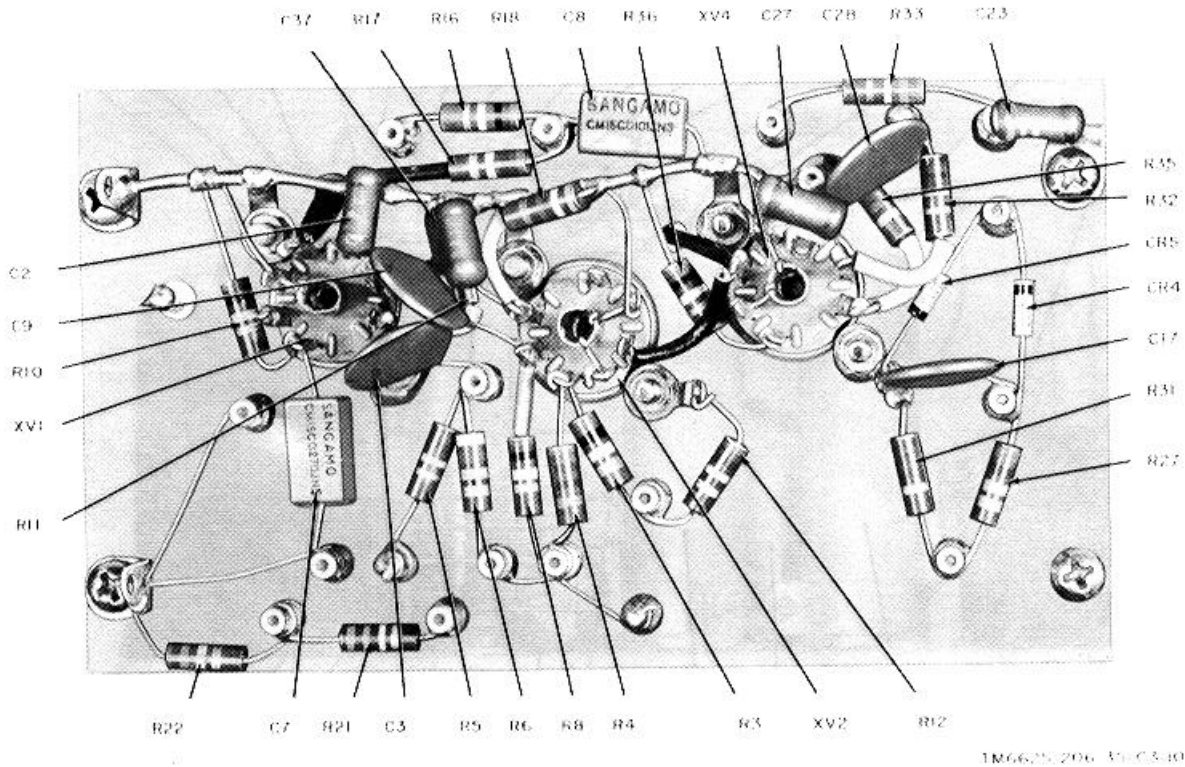

Figure 21.1 Test set subchassis, top view (AN/URM-113A)
Add figure 21.1 after figure 21.
f. Connect the decade resistance -box (set to 1 megohm) across resistor R4 (fig. 21.1). Connect the low-frequency ac voltmeter (set to 3. volt range) across resistor R12 (fig. 21.1) Adjust the resistance substitution box !until the low-frequency ac voltmeter .indicates 1.215 volts, rms. Install an equivalent resistor across R4 in place of the decade resistance box.